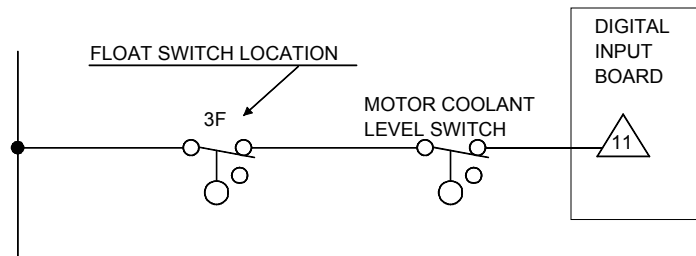

Figure 2 – Wiring for Float Switch (Micropanel Control)
- b. For units with micropanel control and at least one pump on the unit is the old style. Wire as shown in Figure 2.